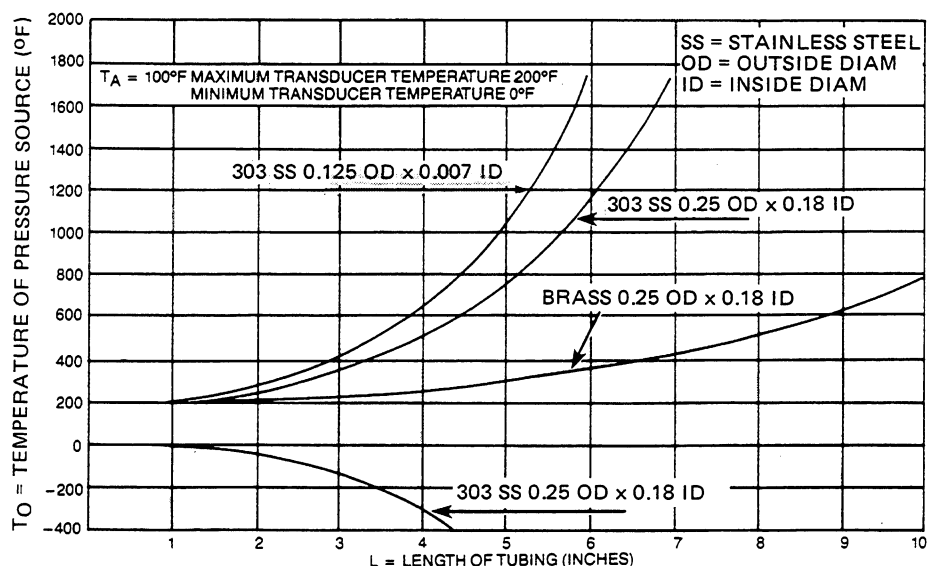

Fig. 1 Tubing length to isolate transducer from temperature source.
The manufacturer provides a graph of "Temperature of Pressure Source" versus "Tubing Length" to help do this. (See Figure 1.) This graph helps technicians choose a transducer to meet their special needs.
When these conditions are satisfied, you can use the graph in Figure 1 to solve the problem in Example A.
Solution: Use the graph given in Figure 1.
- The hydraulic oil temperature is 600°F. Find this value as "T_o" on the left side of the graph in Figure 1.